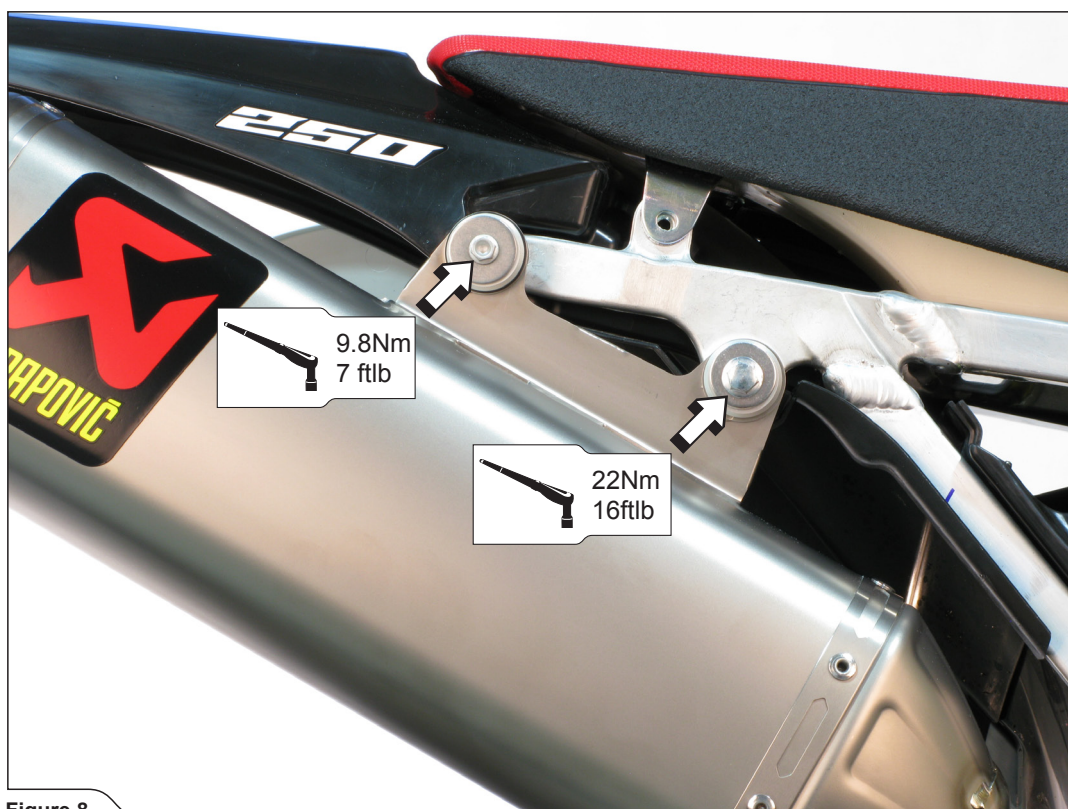

Figure 8
- Align the muffler in respect to the motorcycle and tighten the muffler's bracket bolts, link pipe's bracket bolt and clamp to the specified torques (Figure 8, 9).